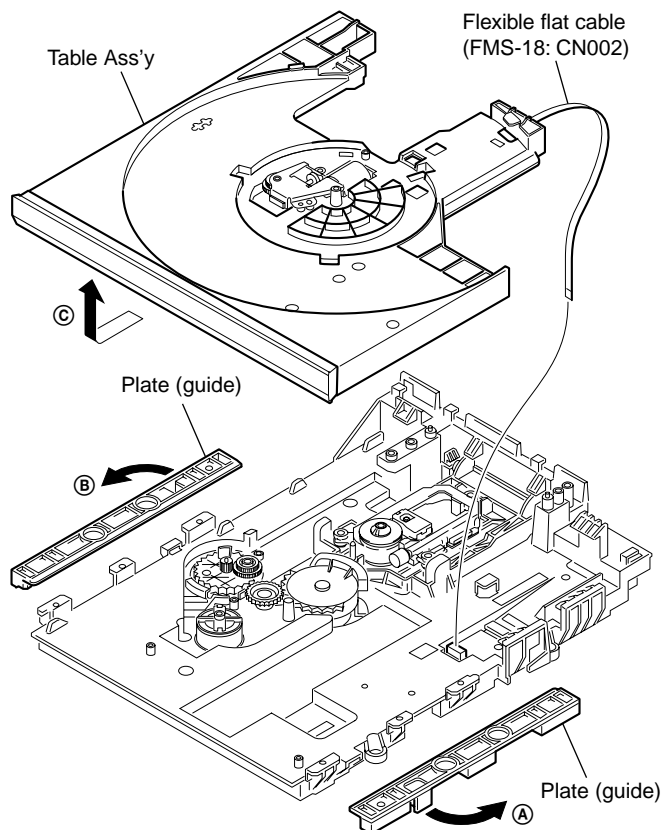

Fig. 4
- 2) Remove the two Plates (guide) in the direction of the arrows ② and ③.
- 3) Remove the Table ass'y in the direction of the arrow ④.
- 4) Remove the Flexible flat cable (See Fig. 4).